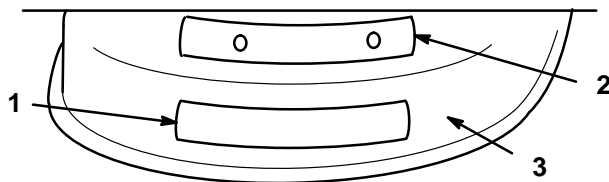

Figure 5
Install Recycler® Mower and (1) safety decals on left side of mower (Fig. 5). Select proper one for country.